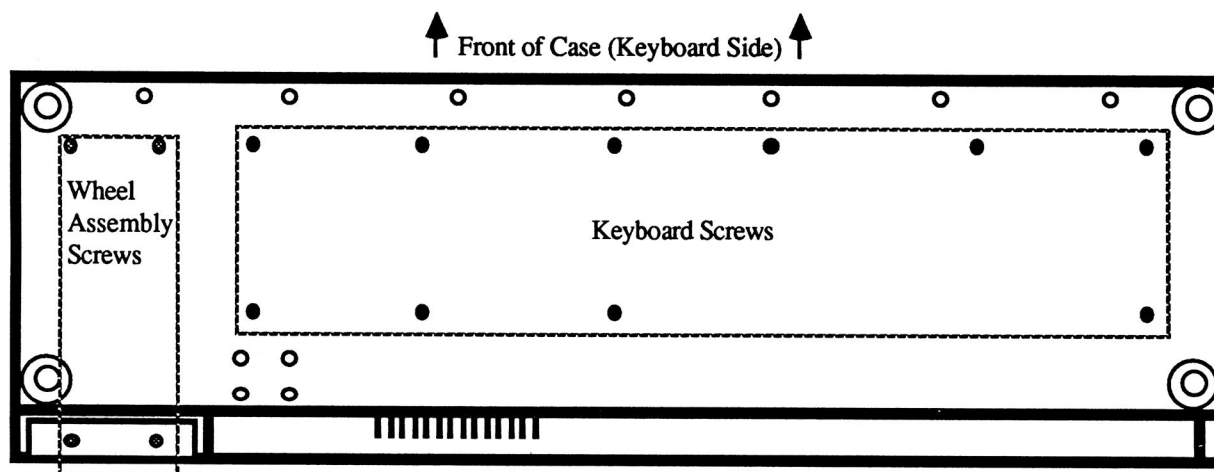

FIGURE 4 - Bottom of Case
4. Place the unit upside down on a soft surface and remove the ten (10) screws that attach the keyboard to the case. See **Figure 4** for location of screws.
10. Turn the unit upside down on a soft surface and replace the ten (10) screws that secure the keyboard to the case.
11. Install the metal shield over the main board and replace the six (6) screws fastening it to the case and keyboard frame. Be sure to attach the ground jumper, if present.
2. Remove the four (4) screws that fasten the control panel, and raise the panel.
3. Place the unit upside down on a soft surface and remove the four (4) screws that attach the wheel assembly to the case. See Figure 4 for location of screws.
7. Remove the four (4) screws and lock washers that attach the Disk Drive to the wheel assembly.
3. Turn the unit over, top down, and remove the four (4) screws that attach the wheel assembly to the case. See Figure 4 for location of screws. Return the unit to an upright position. Carefully lift the wheel assembly out of the case.
5. Remove the two (2) screws and lock washers that attach the metal plate to the bottom of the Disk Drive. Remove the four (4) screws and lock washers that attach the Disk Drive to the wheel assembly.